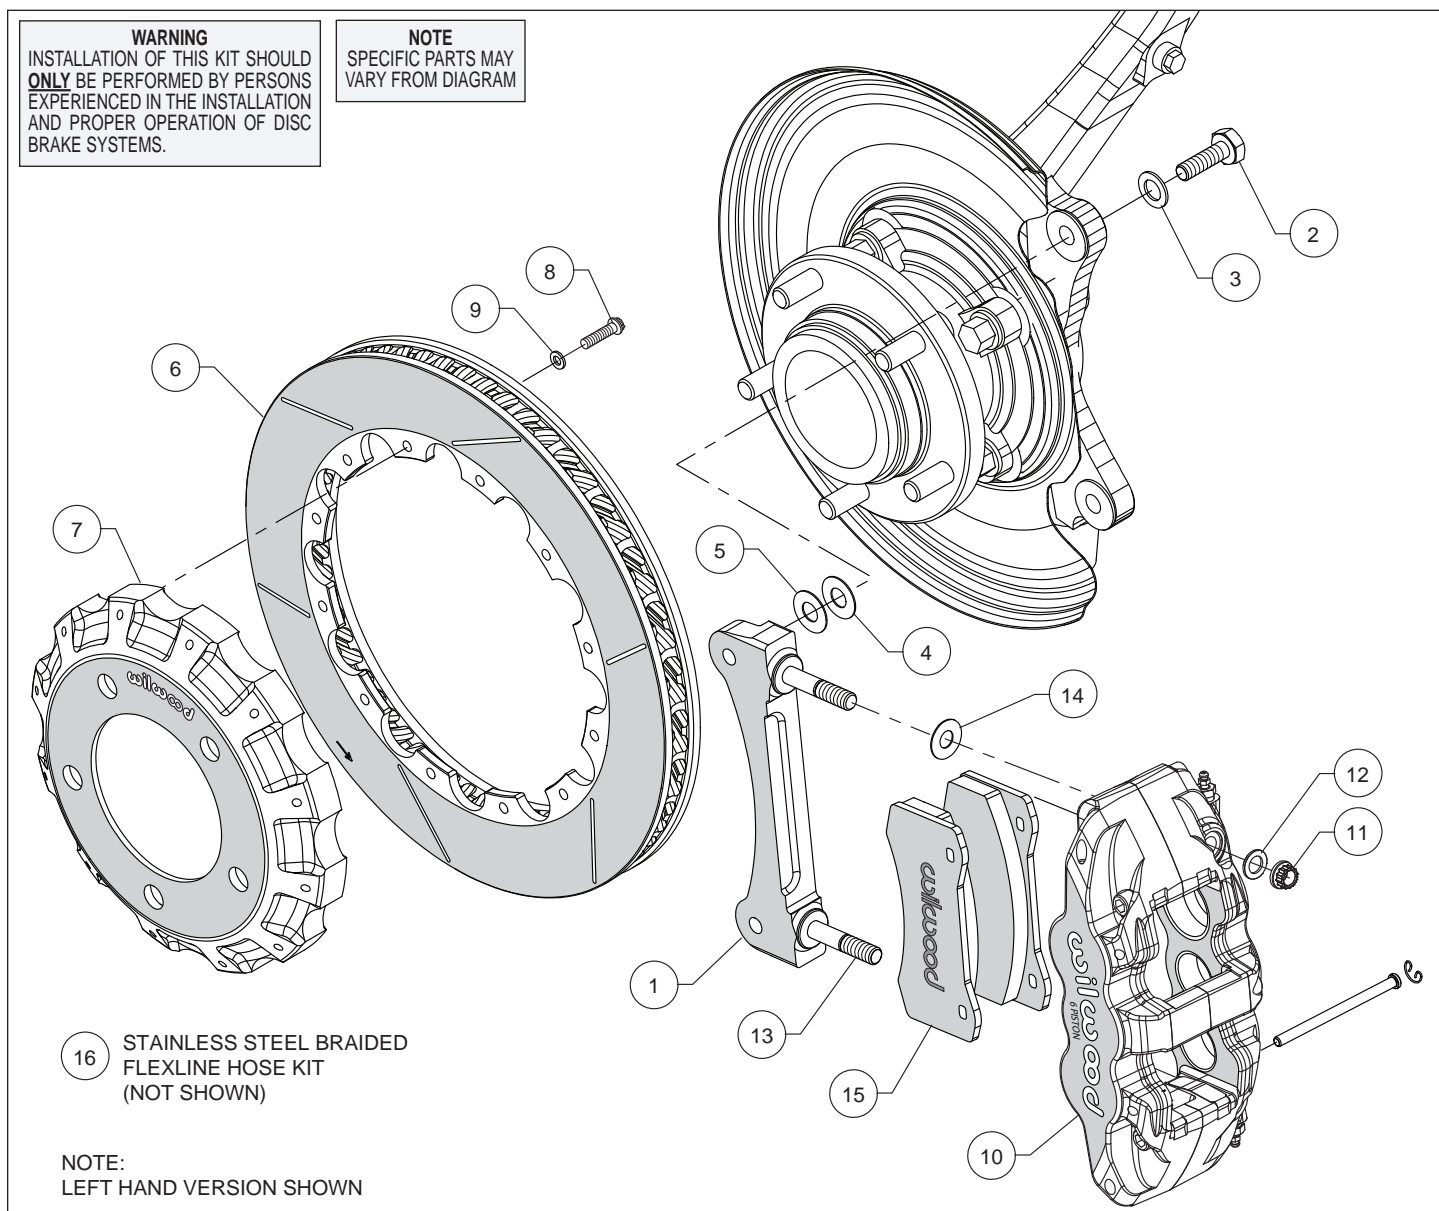
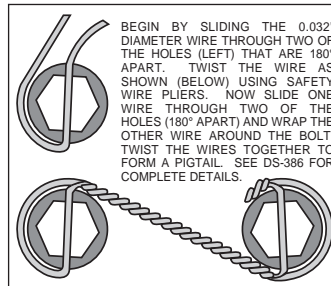

Figure 1. Typical Installation Configuration
Figure 3. Safety Wire Diagram
Assembly Instructions (numbers in parenthesis refer to the parts list and Figure 1 on the preceding pages):
- The caliper mount bracket (1) should initially be installed with clean, dry threads on the mounting bolts. Orient the bracket, as shown in Figure 1 and Photo 1, and install using bolts (2) and washers (3). Initially place one .033" thick shim (4) on each bolt between the bracket and upright, Figure 1. Temporarily tighten the mounting bolts. **NOTE:** *The bracket must fit squarely against the mount bosses on the upright.* Inspect for interference from casting irregularities, machining ridges, burrs, etc. Later, after the caliper alignment has been checked, the mount bolts will be secured using red *Loctite*® 271.
- Orient the rotor (6) and the hat (7) as shown in Figure 1 and Photo 2. Attach rotor to hat using bolts (8) and washers (9). Using an alternating sequence, apply red *Loctite*® 271 to the threads, and torque to 155 in-lbs. For an added measure of security, the bolts may be safety wired using standard 0.032 inch diameter stainless steel safety wire as shown in Figure 3. Refer to Wilwood's data sheet DS-386 (available at www.wilwood.com/Pdf/DataSheets/ds386.pdf) for complete safety wire installation instructions.
- NOTE:** *This kit contains distinct right and left hand calipers that must be mounted in a specific direction, as described below.* Lubricate the caliper mounting studs (13) with lightweight oil. Initially place one .030" thick shim (14) on each stud between the caliper and the bracket, as shown in Figure 1 and Photo 4. Mount the caliper (10) onto the bracket (1) using lock nuts (11) and washers (12), Figure 1. Temporarily tighten the lock nuts. Ensure that the caliper is mounted so the largest pistons are at the rotor exit end of the caliper, in relation to the direction of the rotor. View the rotor through the top opening of the caliper. The rotor should be centered in the caliper, Photo 5. If not, adjust by adding or subtracting shims (4 and/or 5) between the bracket and the upright. Always use the same amount of shims on each of the two mounting bolts. Once the caliper alignment is correct, remove the bracket mounting bolts (2) one at a time, apply red *Loctite*® 271 to the threads, and torque to 60 ft-lbs.
- Remove the caliper (10), then remove the two pad retaining pins from the caliper by carefully popping out the pin retaining clips and sliding out the pins. Insert the brake pads (15) into the caliper from the bottom, Figure 1 and Photo 6. With the friction material facing the rotor, secure the brake pads in place with the pad retaining pins and clips, Photo 7. Reinstall the caliper onto the caliper mounting bracket and temporarily tighten the lock nuts. Check that the top of the brake pad is flush with the outside diameter of the rotor, Photo 8. If not, adjust by adding or subtracting shims (14) between the caliper and the bracket. After the caliper pad height is set, torque the caliper lock nuts (11) to 47 ft-lb.